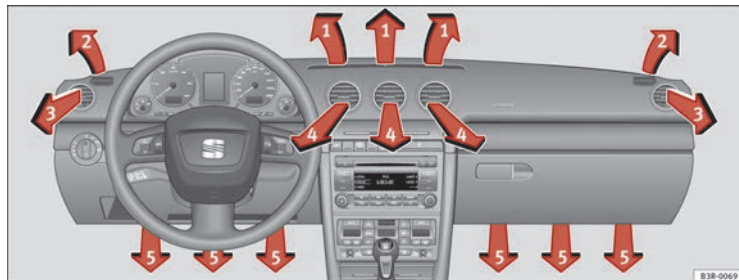

Fig. 132 Dash panel: Location of air outlets
The air outlets ⇒ fig. 132 ③ and ④ can be operated as follows:
Each of the three buttons has a specific function. The numbers relate to the air outlets ⇒ fig. 132. ▶
After the ignition is switched off, the blower is supplied with electrical power from the sunroof. Please ensure that outlets 3 and 4 are open ⇒ fig. 132 to ensure the best possible ventilation.